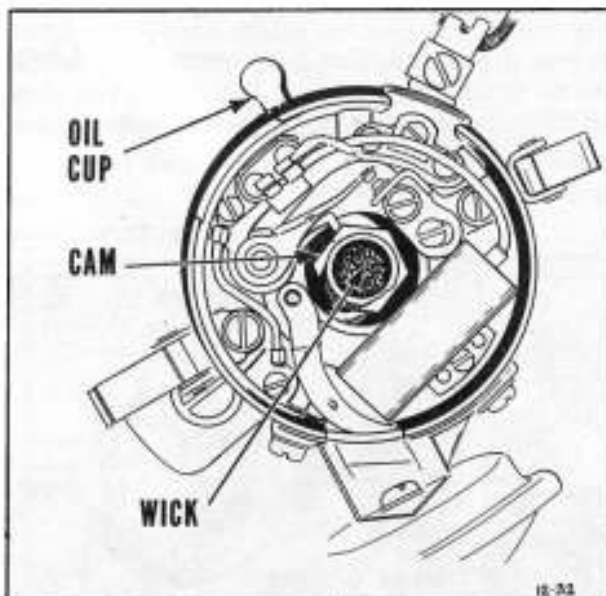

Fig. 1—Distributor
**CYLINDER HEAD**—Whenever an engine has been reconditioned, or the cylinder head has been removed for any other purpose, the cylinder head retaining screws should be tightened in the order shown in Fig. 1 Page K-1. Tighten all screws evenly with a suitable torque wrench to 65 to 70 foot lbs. A final tightening and checking of the tension should
**DISTRIBUTOR**—Lubricate the distributor shaft every 1000 miles—five drops of seasonal engine oil in oil cup on side of distributor body, also two drops of oil on wick beneath the rotor. Add just a smear of vaseline to the cam. (Fig. 1)